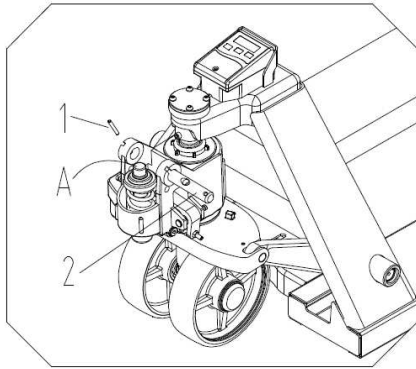

Fig1
3.2 See fig 1, pull out the pin roll 1, and then pull out pin roll 2.